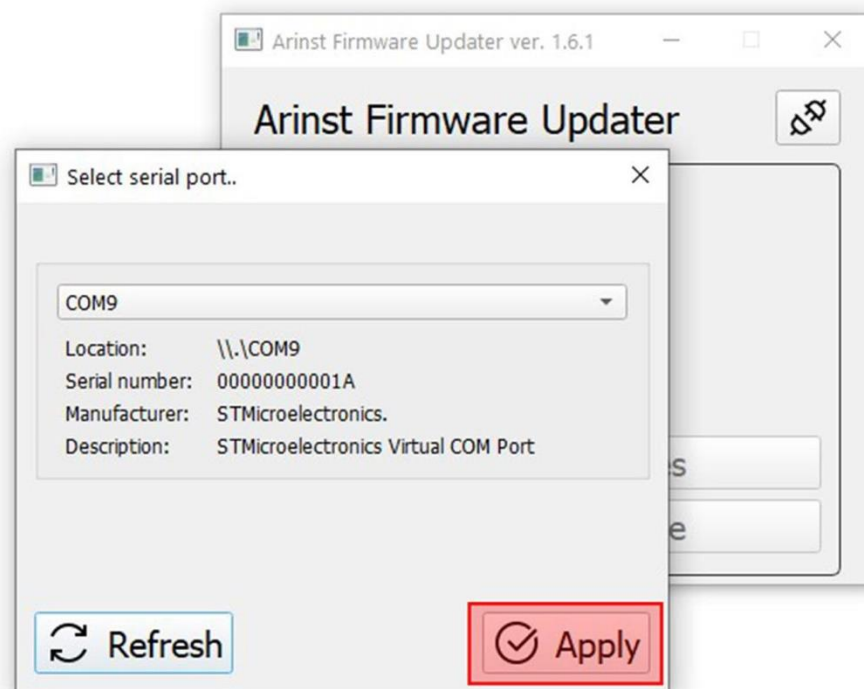

Figure A2.4 – Connection of the loader application to the device
2.6. After selecting the port, make the connection by clicking the **Apply** button (Figure A2.4).